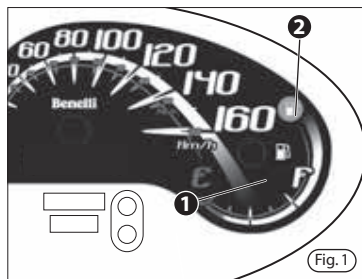

Fig. 1
- 2) Turn the key anticlockwise and lift seat (fig. 1)
The gauge located on the right side of the dashboard 1 (fig. 1) indicates the quantity of fuel in the tank.
The reserve light 2 (fig.1) comes on when 50 km (30 miles) of autonomy remain. When the light comes on, you are recommended to stop at the nearest station for refuelling.
Operate the switch 1 (fig.1) to signal that you intend to change direction: